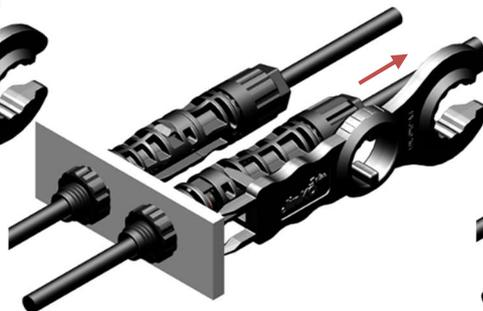

Figure 24
- ✧ 拉拔电缆连接器, 即可分开公母连接器 (如图 24&25)。
Pull the cable connector by hand respectively. The connector can now be separated (Fig. 24&25).